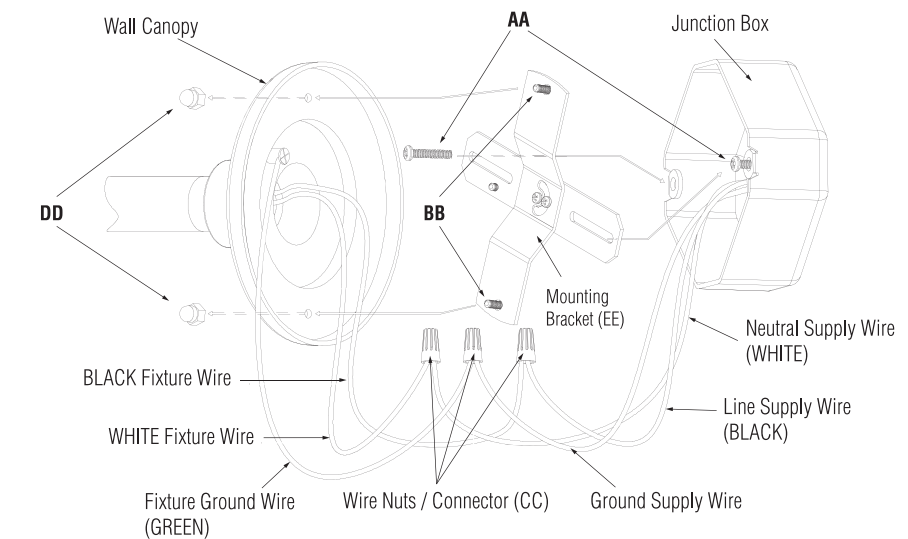

Figure 3
1. Connect the fixture ground wire (GREEN) to the ground supply wire using a wire nut (CC).
2. Connect the BLACK fixture wire to the BLACK (Line) supply wire using the wire nuts (CC).
3. Connect the WHITE fixture wire to the WHITE (Neutral) supply wire using the wire nuts (CC).
4. Carefully tuck all wiring back into the JUNCTION BOX, making sure there are no exposed un-insulated wires. (Figure 3)
Place the WALL CANOPY over the JUNCTION BOX and onto the fixture's MOUNTING SCREWS (BB) and adjust the fixture MOUNTING SCREWS (BB) until they protrude out an appropriate height from the back of the WALL CANOPY to allow the SCREW CAPS (DD) to hold the WALL CANOPY tightly against the wall. Remove the WALL CANOPY and secure the position of the MOUNTING SCREWS (BB) against the MOUNTING BRACKET (EE). (Figure 3)